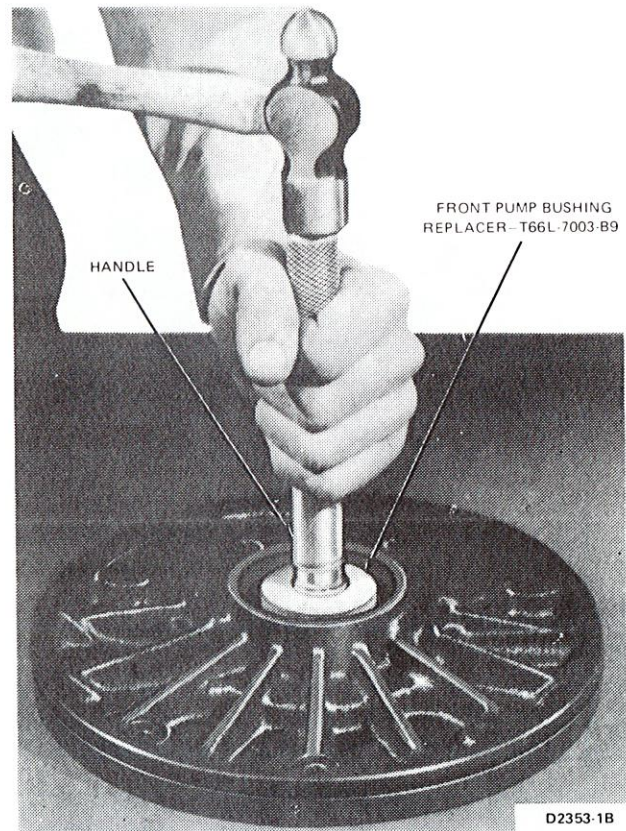

FIG. 34 Replacing Front Pump Housing Bushing
5. If the pump housing bushing is worn or damaged, replace it using the handle and tool shown in Fig. 34.